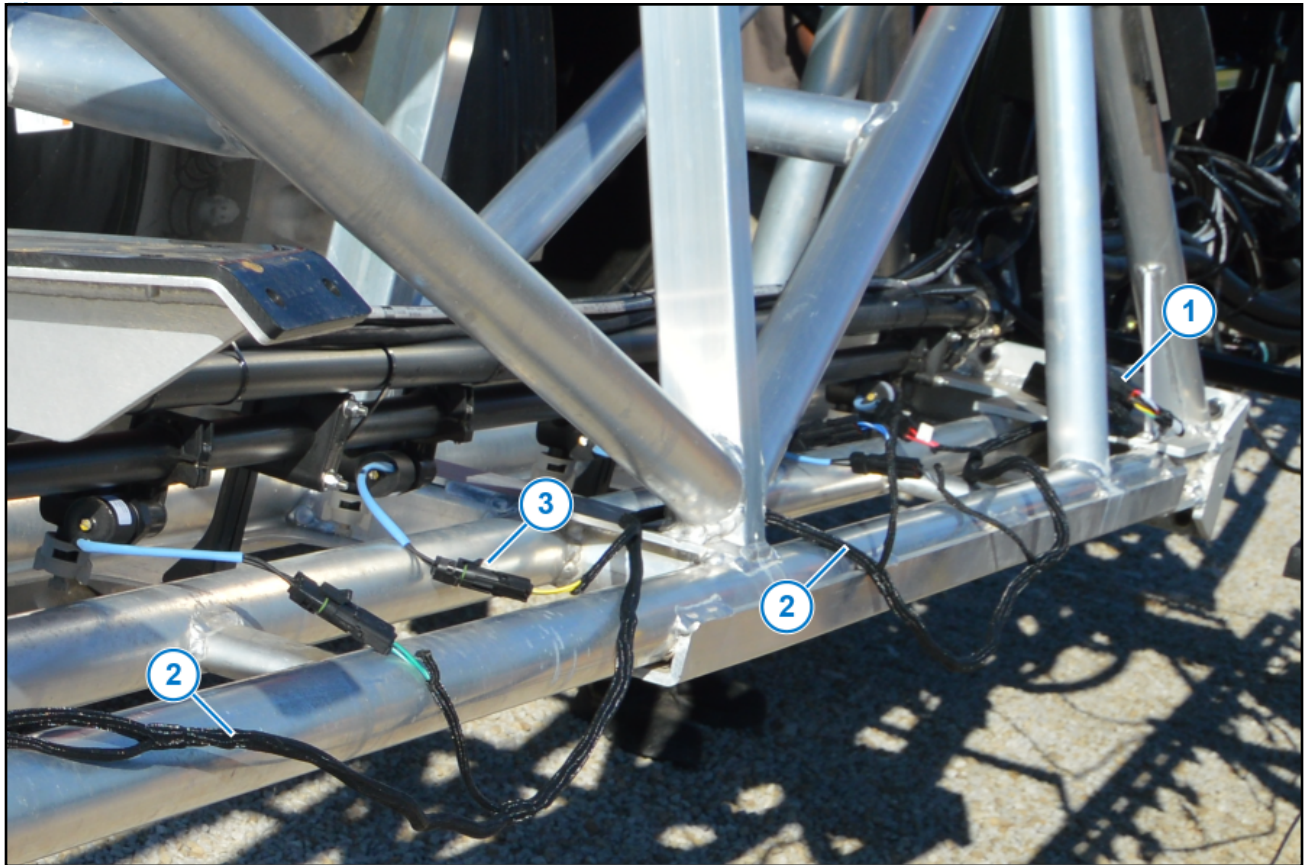

Figure 15: VCM Installation
1. Place each VCM (Figure 15, Item 1) adjacent to the first nozzle on the associated boom section. The VCMs are tagged and marked for the appropriate boom sections.
3. Route the harness (Figure 15, Item 2) along the booms.
4. Connect the harness connectors (Figure 15, Item 3) at the VCMs and the nozzle valves.